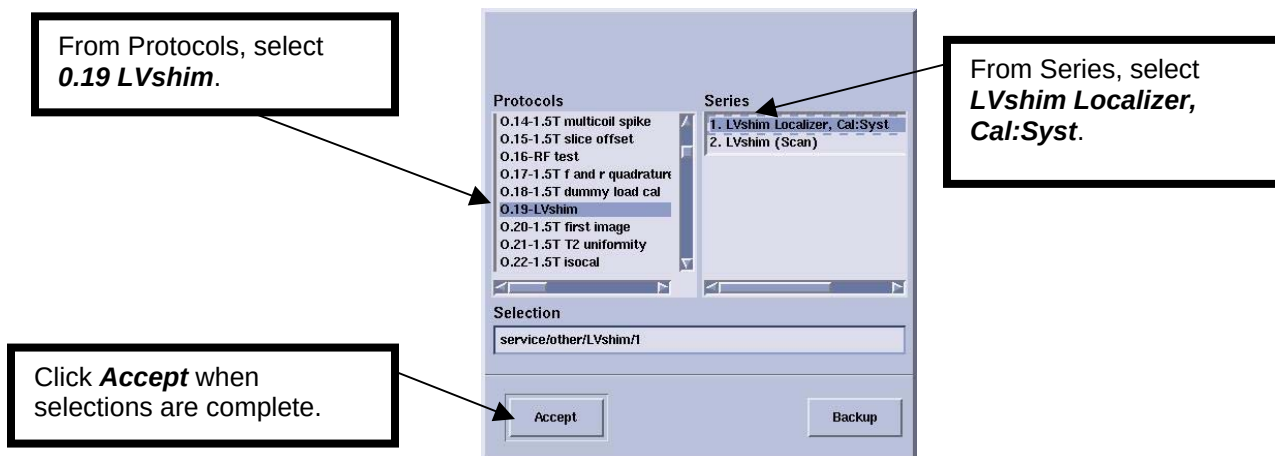

Figure 5
5. From the Protocol selection box, select "0.19 LVshim" in the Protocol column and "LVshim Localizer, Cal:Syst" in the Series column shown in Figure 5.
6. Click "Accept" (shown in Figure 5) when the selections are correct and complete.